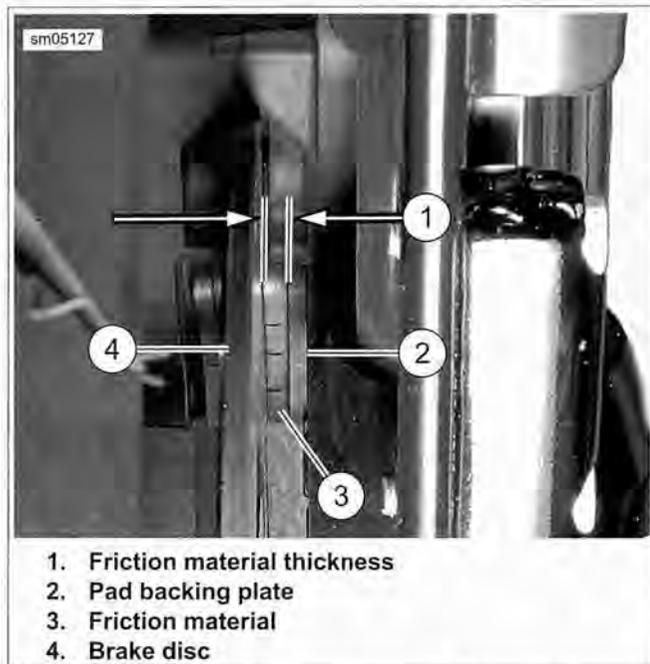

Figure 1-25. Brake Pad Inspection (front brake shown)
See Figure 1-25. Replace brake pads if thickness (1) of brake pad friction material (3) is worn to 0.040 in (1.02 mm) or less. Always replace both pads in a caliper as a set. See 1.9 BRAKE PADS AND DISCS: XR 1200X, Brake Pad Replacement: Front or 1.9 BRAKE PADS AND DISCS: XR 1200X, Brake Pad Replacement: Rear.